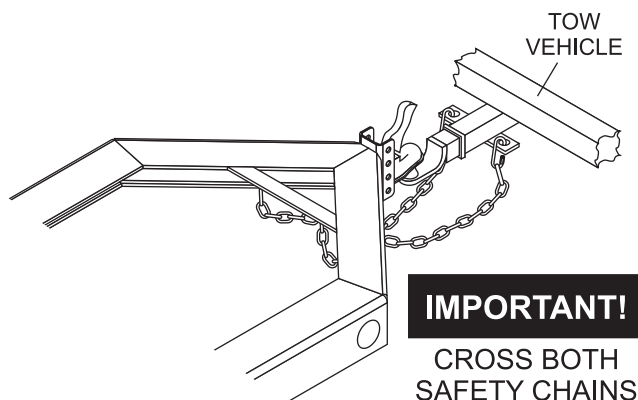

Figure 29. Safety Chain Arrangement for a Bumper Pull Trailer (Ball Hitch)
- A. Cross underneath the coupler. See Figure 29.